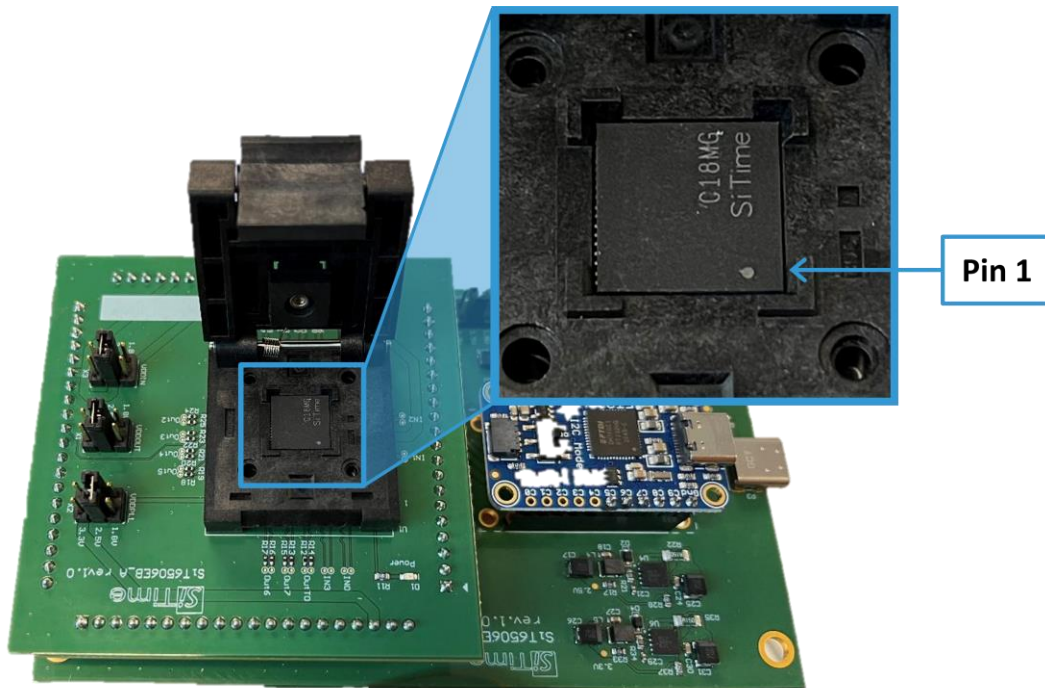

Figure 3. SiT9514x unit properly loaded in programming socket
- Pin 1 on the programming socket is located on the side nearest to the USB-C port (see Figure 3).